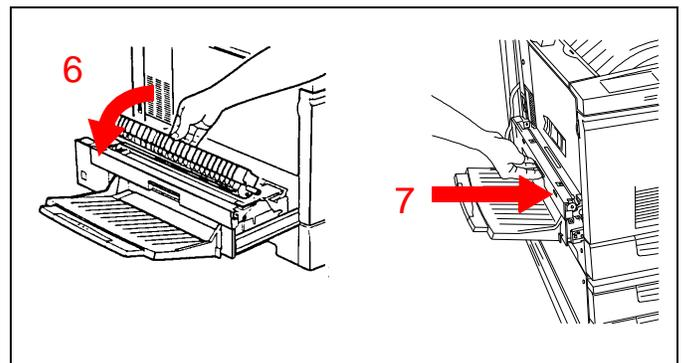

Figure 17
6. See Figure 17. Reinsert the oil roll cartridge.